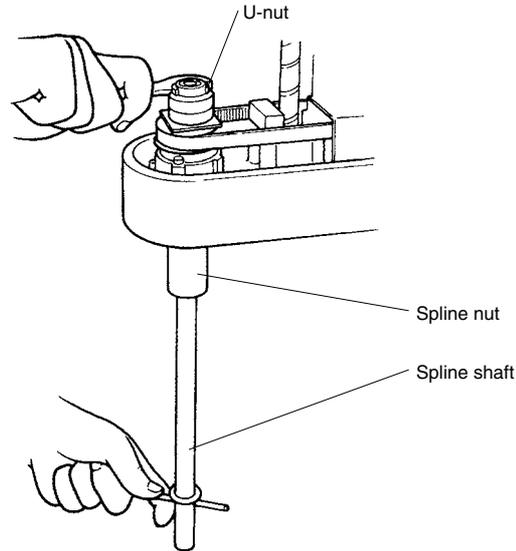

Fig. 5-47
- 7) While placing a steel rod or similar tool through the 8mm diameter hole at the lower part of the spline, loosen the U-nut at the top of the spline with the hook wrench, and remove the bearing and bearing mount plate. (See Fig. 5-47.)
- 22) Insert the bearing mount plate and bearing onto the spline from the top, and tighten the U-nut to secure the bearing. (Utilize the  $\phi 8$  through-hole when tightening the U-nut like you did to loosen it.) (See Fig. 5-47.)